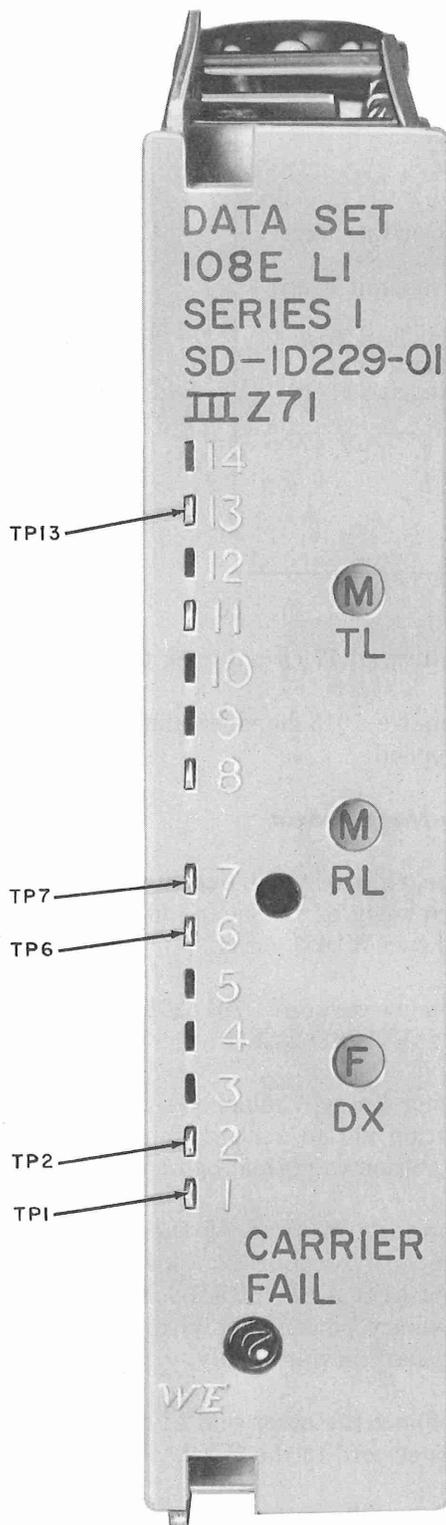

Fig. 1—Data Set Test Points
- (2) Remove plastic housing of DAS 820D-L1 or gain access to DAS 820D-L1A.
- (3) Operate 1013 handset TALK MON switch to MON.
- (4) Connect leads of 1013 handset to data set TP1 and TP2 for 2-wire line facilities or TP6 and TP13 for 4-wire line facilities (see Fig. 1).
- (5) Monitor for incoming carrier F1 (data set 108E) or F2 (data set 108D).